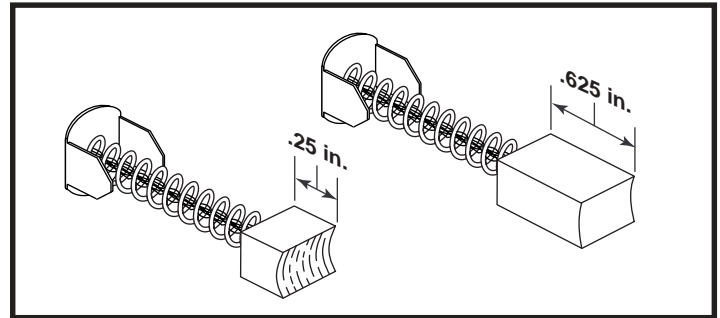

Figure 19. Motor Brushes
3. Remove the motor brushes from the right motor and inspect them. **See figure 19.**